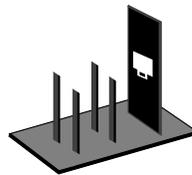

Figure 3-12.
3. With the jumper in the upright position (see figure 3-12), place it onto both prongs of the desired tone, Medium or Low, pushing the jumper downward until it is secure.